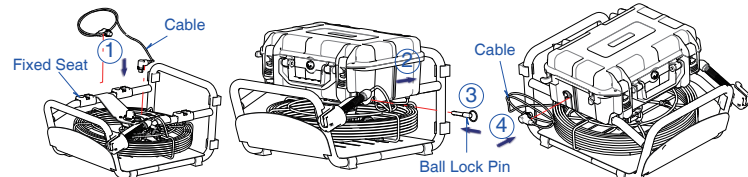

Figure 7. Install toolbox
Step 4. Connect the other end of the spring cable with the aviation socket of the toolbox and tighten the screw. (Figure 7.)